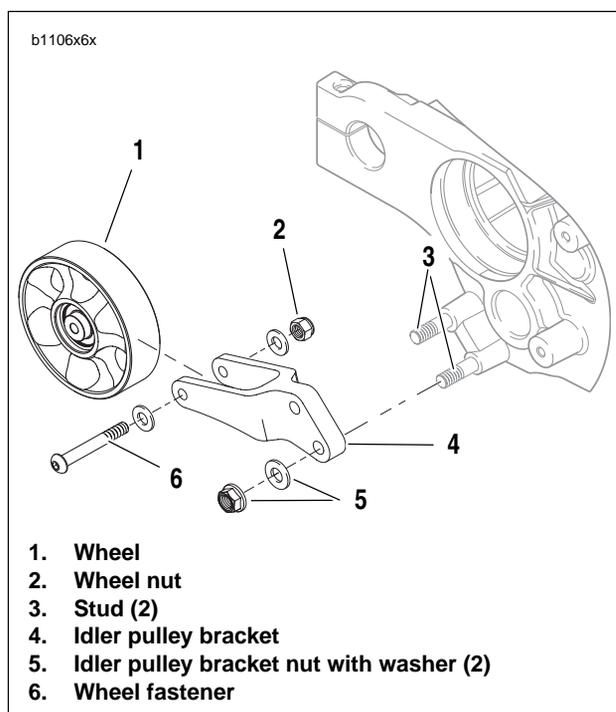

Figure 6-94. Idler Pulley Assembly
4. See Figure 6-94. Remove both bracket nuts with washers (5) attaching idler pulley bracket (4) to studs (3).
6. Inspect pulley by spinning wheel (1) and checking for wheel bearing wear. See INSPECTION under 1.10 DRIVE BELT.
7. If pulley wheel needs replacement, remove fastener (6) and washer (3) from idler pulley bracket (4) and discard. Replace with **new** pulley wheel (1).